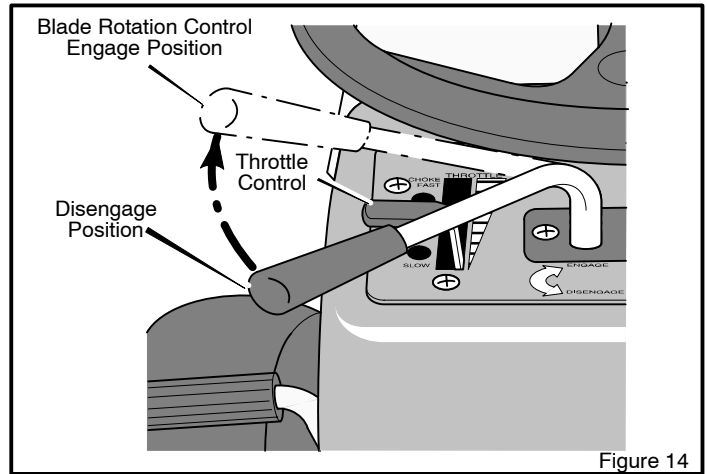
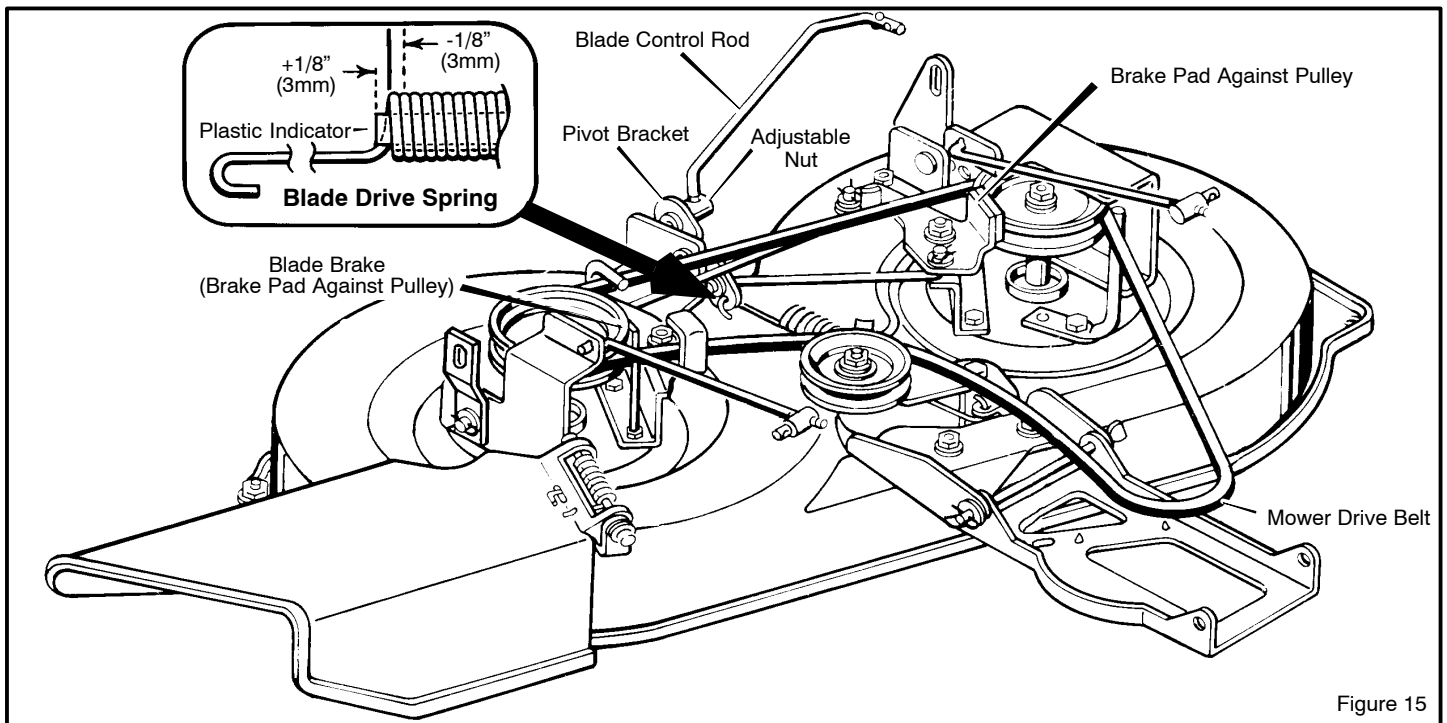

Figure 14
Figure 15
4. Move the **blade rotation control** to the **ENGAGE** position (Figure 14). Check the **plastic indicator** inside the **blade drive spring** (Figure 15). The end of the **plastic indicator** must be aligned (+ or -1/8 inch / 3 mm) with the last coil of the **blade drive spring**.